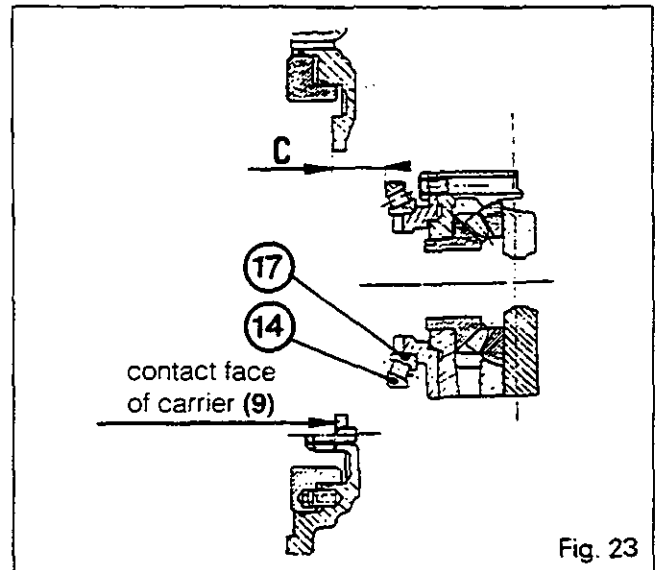

Fig. 23
100. Calculate the distance C between the cup (14) and the contact face of the carrier (9) (Fig. 23).